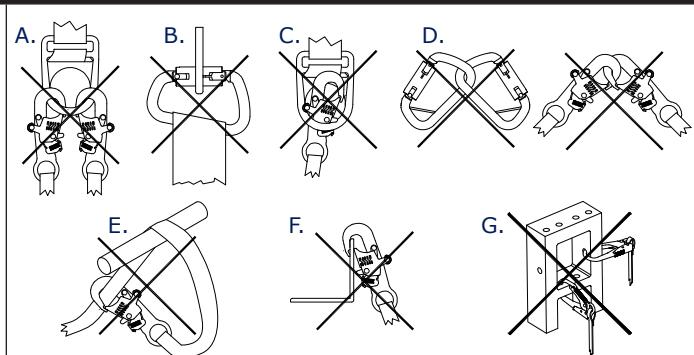

Figure 10 - Web Loop Connections
2.4 CONNECTING SUBSYSTEMS: Connecting subsystems (self-retracting lifeline, lanyard, rope grab and lifeline, cable sleeve) must be suitable for your application. See Section 1.1. See subsystem manufacturer's instructions for more information. Some harness models have web loop connection points. Do not use snap hooks to connect to web loops. Use a self-locking carabiner to connect to a web loop. Ensure the carabiner cannot cross-gate load (load against the gate rather than along the backbone of the carabiner). Some lanyards are designed to choke onto a web loop to provide a compatible connection (see Figure 10). Lanyards may be sewn directly to the web loop forming a permanent connection. Do not make multiple connections onto one web loop, unless choking two lanyards onto a properly sized web loop.